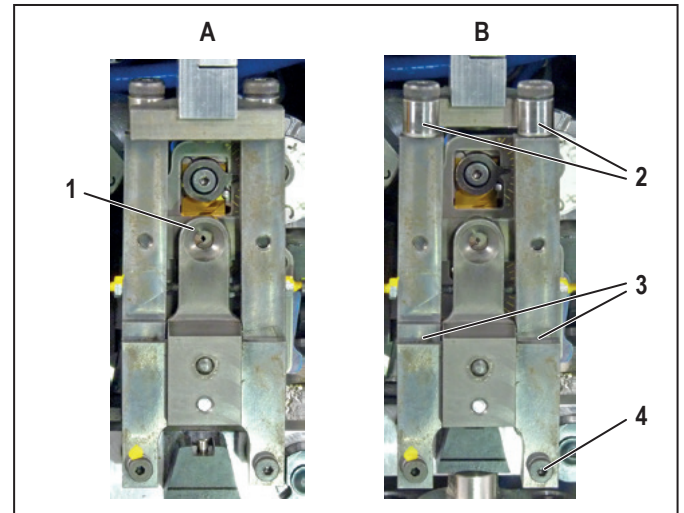

Figure 7.3 Stranded wire fixing unit in operating position (A) and pulled forward (B)
- ▶ Pull the stranded wire fixing unit forwards (Figure 7.3, B).
- ▶ Check whether the rollers (2) are able to move freely. If necessary, lubricate the rotation points of the rollers.
- ▶ Oil the rotation points (3) of the stranded wire fixing unit.
- Ensure that the stranded wire fixing unit is located in the front position (Figure 7.3, B).
- Remove the bottom right screw of the stranded wire fixing unit (Figure 7.3, 4).